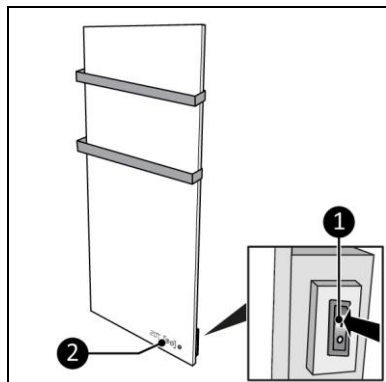

Figure 12
1. Set the ON/OFF switch to the ON position (Figure 12, pos. 1).
2. The control panel and display (Figure 12, pos. 2) will light up.